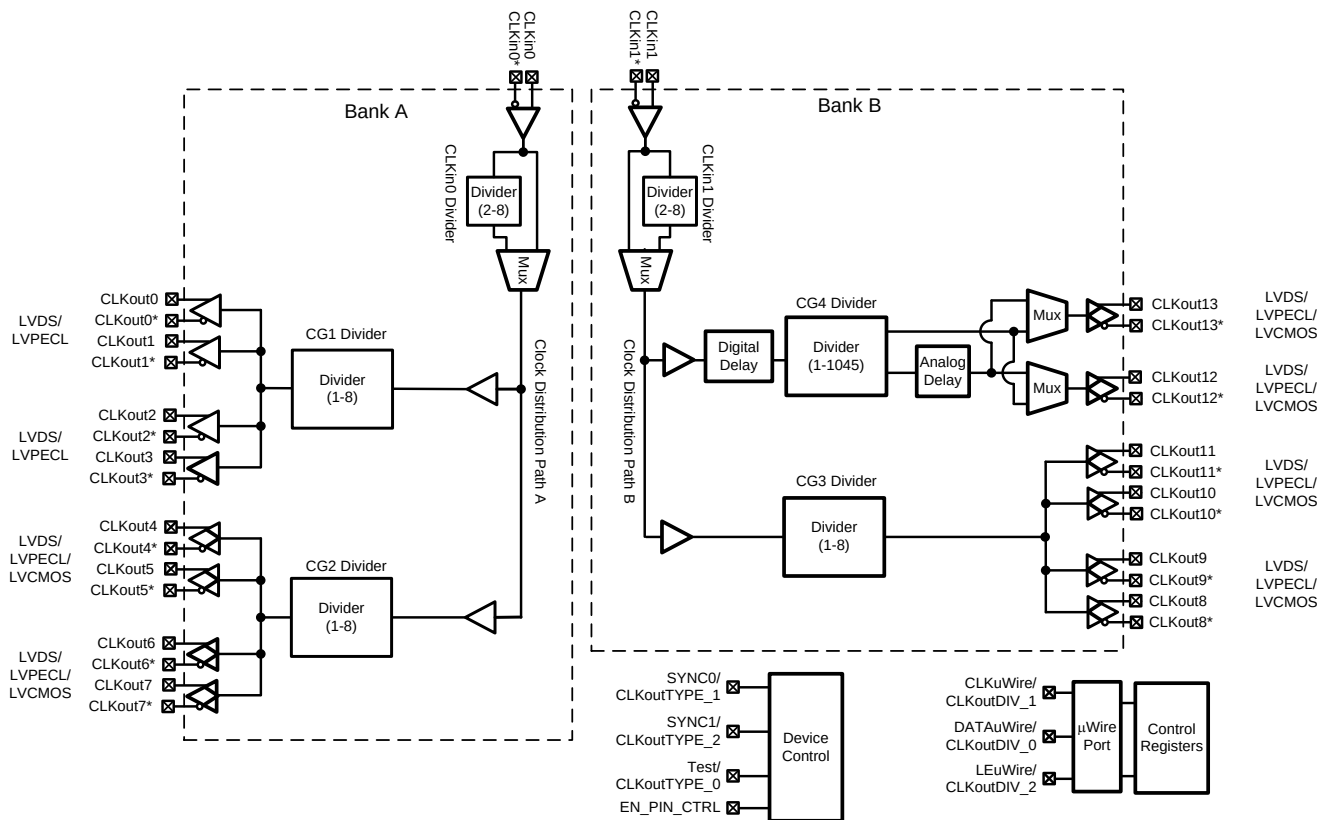

Figure 2. LMK01801 Block Diagram
Figure 2 illustrates the functional architecture of the LMK01801 clock divider buffer. The LMK01801 is a very low noise solution for clocking systems that require distribution and frequency division of precision clocks. The LMK01801 features extremely low residual noise, frequency division, digital and analog delay adjustments, and fourteen (14) programmable differential outputs: LVPECL, LVDS and LVCMOS (2 outputs per differential output). The LMK01801 features two independent inputs that can be driven differentially or in single-ended mode. The first input drives output Bank A consisting of eight (8) outputs. The second input drives output Bank B consisting of six (6) outputs.